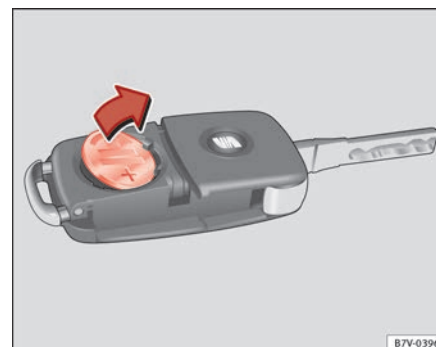

Fig. 44 Vehicle key: removing the battery. ►
- Extract the battery from the compartment using a suitable thin object ⇒ fig. 44.
- Place the new battery in the compartment, pressing in the direction of the arrow as shown ⇒ fig. 44 ⇒ ②.